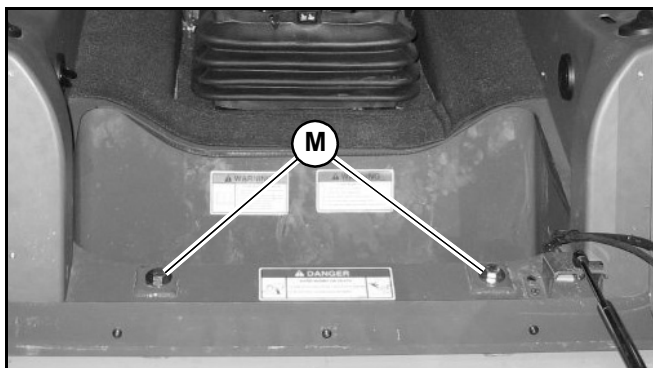

Fig. 120 – ROPS/FOPS Anchor Fasteners
3. Secure the ROPS/FOPS to the chassis with anchor bolts and washers (M, Fig. 120). Torque anchor bolts to 75 lb.-ft. (102 Nm).
Always secure the ROPS/FOPS to the chassis with anchor bolts and washers (M, Fig. 120) before driving or using the machine.